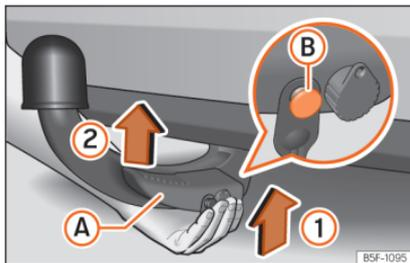

Fig. 254 Putting the tow hook in place. Step 1.
- Hold the tow hook **from below** and fit it into the hook housing in the direction of the arrow >>> Fig. 254 (1) until it is heard to fit into place >>> ⚠.
Lever >>> Fig. 254 (A) **automatically** turns in the direction of arrow (2) upwards, and the release bolt (B) moves outwards (its red and green parts are visible) >>> ⚠.
- **Keep your hands away from the lever when fitting the tow hook to avoid trapping your fingers >>> Fig. 254 (A).**